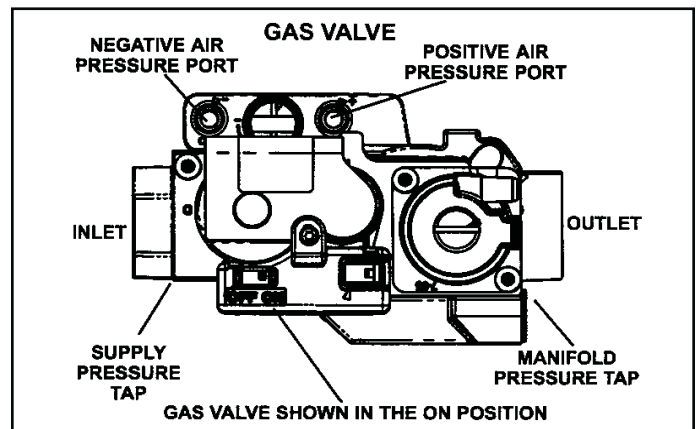

Figure 51.
6. Move the gas valve switch to the OFF position. See Figure 51.
8. Move gas valve switch to the ON position. See Figure 51. **DO Not** force.